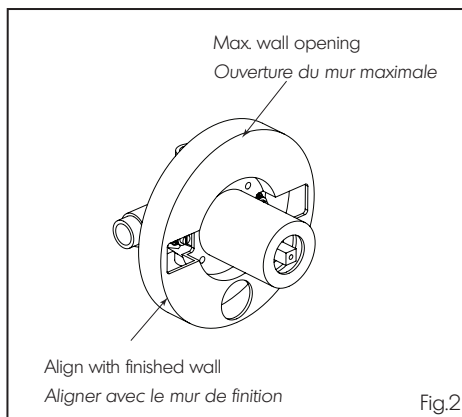

Fig.2
**!** THE PLASTIC PROTECTOR CAP CAN BE USED AS A TEMPLATE FOR SETTING THE DEPTH OF THE VALVE IN THE WALL AND ALSO AS A TEMPLATE TO CUT OUT THE OPENING ON THE WALL (Fig.2). BEFORE FIXING THE VALVE ONTO THE PLYWOOD BACKING, MAKE SURE IT IS LEVEL.
LE CAPUCHON PROTECTEUR EN PLASTIQUE PEUT ÊTRE UTILISÉ COMME GABARIT POUR DÉTERMINER LA BONNE PROFONDEUR DE LA VALVE. IL PEUT AUSSI SERVIR DE GABARIT POUR DÉCOUPER L'OUVERTURE DANS LE MUR. (Fig.2). AVANT DE FIXER LA VALVE AU SUPPORT EN CONTRE-PLAQUÉ, S'ASSURER QU'ELLE SOIT À NIVEAU.